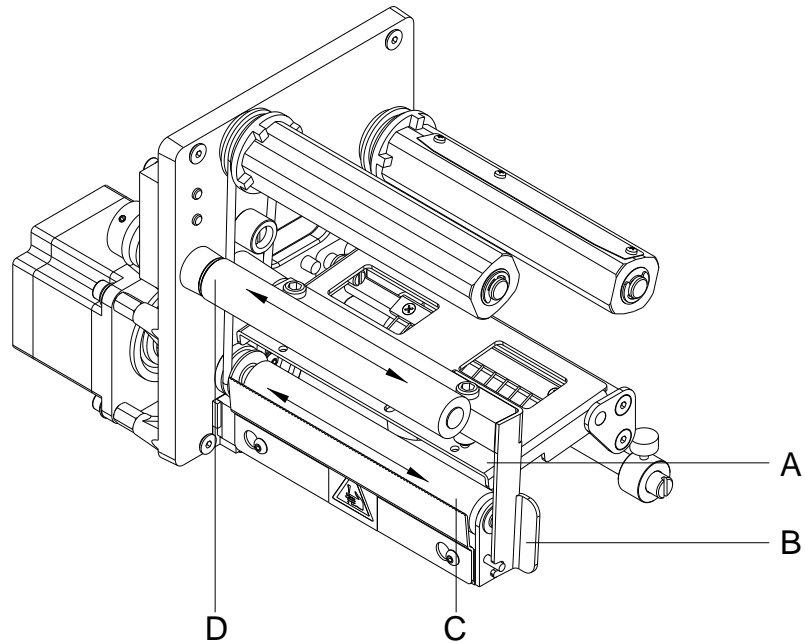

Figure 2
2. Turn the pressure lever (B, Figure 2) counter clockwise to lift up the printhead (A, Figure 2).
7. To move the printhead (A, Figure 2) down, turn the pressure lever (B, Figure 2) in clockwise direction until it locks.
4. Blow out the photocell (A) with pressure gas spray. Observe strictly the instructions on the spray can!
5. Clean the label photocell (A) additionally with a cleaning card (B) before soaked in pure alcohol. Move the cleaning card from one side to the other (see illustration).